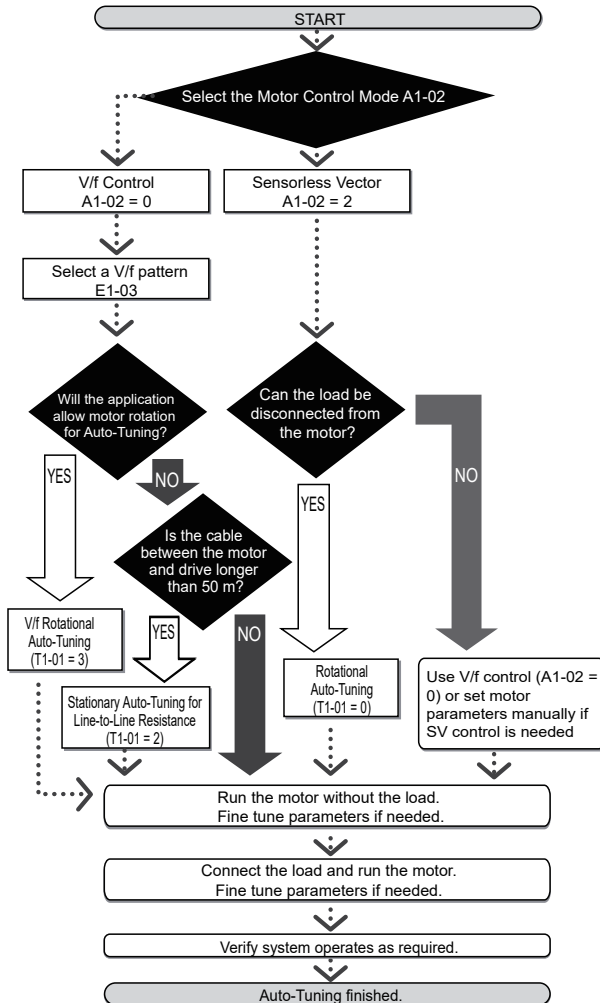

Figure 4.16 Auto-Tuning Selection
2. Determine which type of Auto-Tuning best fits the application requirements following Figure 4.16.